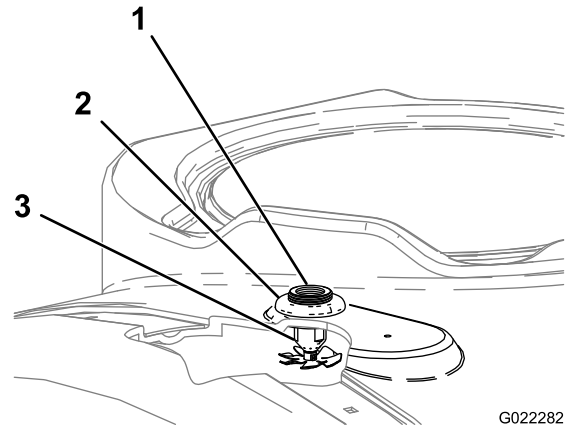

Figure 8
2. Install the nozzle assemblies up through the drilled holes (Figure 8).
3. Install the plastic flange nut over the exposed threads of the bulkhead on top of the tank (Figure 8).